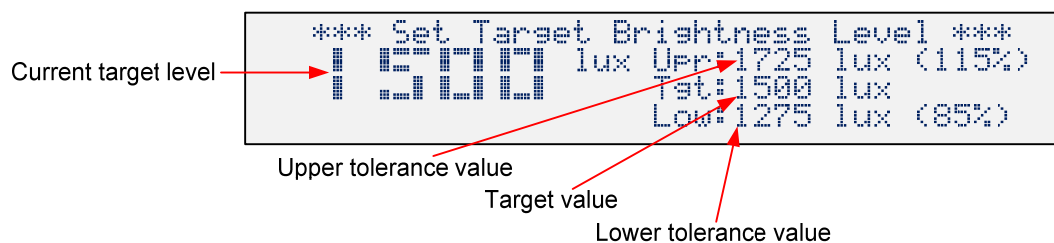

Figure 31. Target light level setting screen
To set the target brightness level, go to the Menu→Set Brightness Target Levels→Set Target Brightness Level (lux) menu item. The LCD display should appear similar to Figure 31. The current target level is shown on the left side of the screen. For reference, the upper and lower tolerance levels are shown on the right side. If the target brightness level is changed, the tolerance levels are immediately updated.
To set the target color temperature level, go to the Menu→Set Color Target Levels→Set Target Color (K) menu item. The LCD display should appear similar to Figure 31. The current target color temperature is shown on the left side of the screen. For reference, the upper and lower tolerance levels are shown on the right side. If the target color temperature is changed, the tolerance levels are immediately updated.